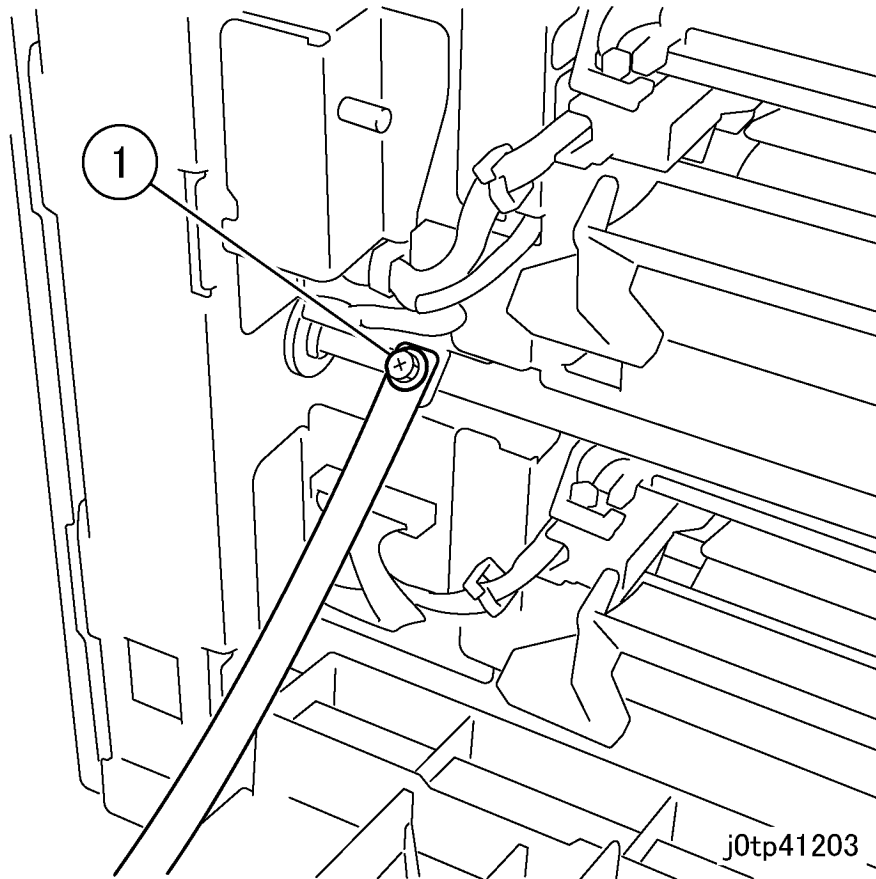

Figure 3 Removing the screws
5. Remove the screws. (Figure 3)